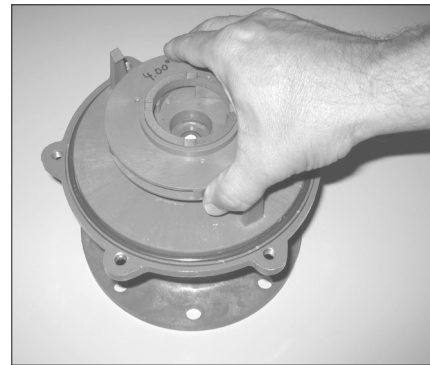
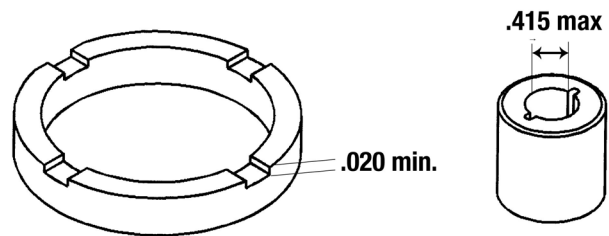

Figure 18
Figure 19
10. Remove impeller/inner drive assembly (items 8, 8A, 9 & 9A). Inspect impeller and drive for signs of wear or damage. See figure 18. Check the impeller thrust ring and bushing for wear. See figure 19.